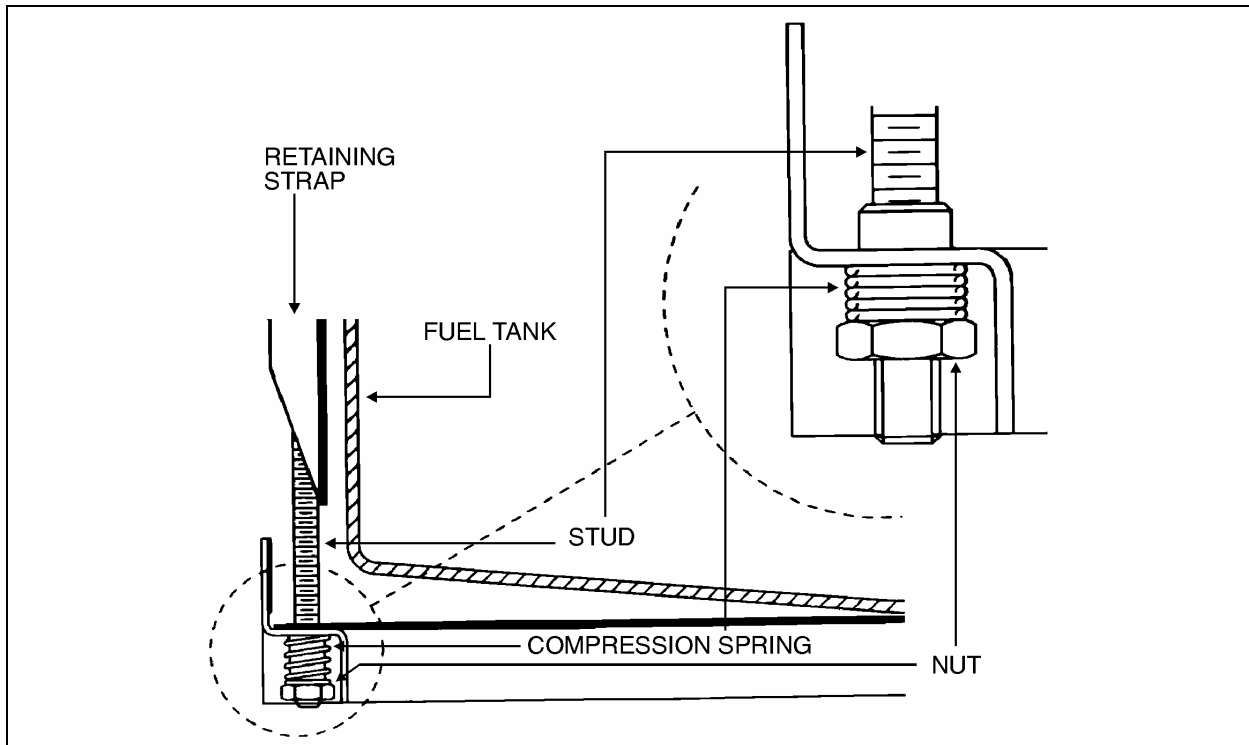

FIGURE 1: NUTS FOR FUEL TANK RETAINING STRAP
1. Under vehicle, locate fuel tank and the four nuts retaining the two fuel tank retaining straps. (Fig. 1).